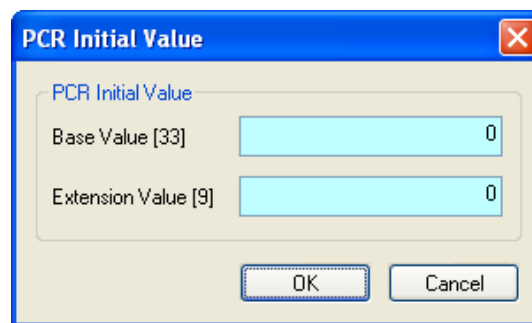

Figure 2-3: PCR Initial Value dialog box settings
8. In the Play menu, click PCR Initial Value... to open the dialog box shown in Figure 2-3.